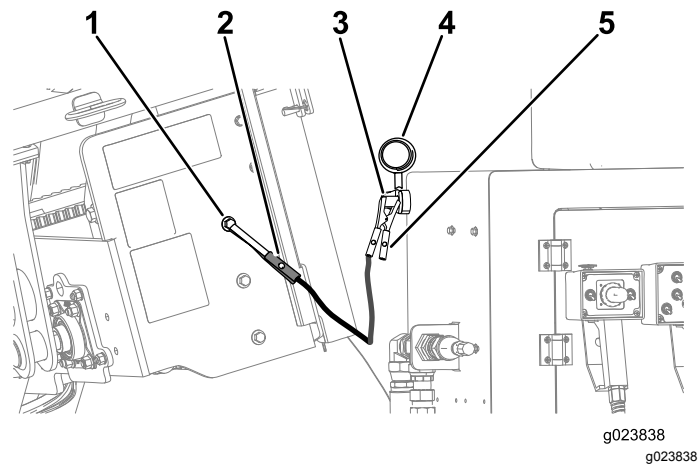

Figure 101
- Remove the cover from the jump post (Figure 101).
- Connect the positive (+) jumper cable to the jump post (Figure 101).
- Connect the negative (-) jumper cable to a ground point, such as an unpainted bolt or chassis member (Figure 101).
- When the engine starts, have the other person disconnect the negative (-) jumper cable from the frame and then disconnect the positive (+) jumper cable (Figure 101).